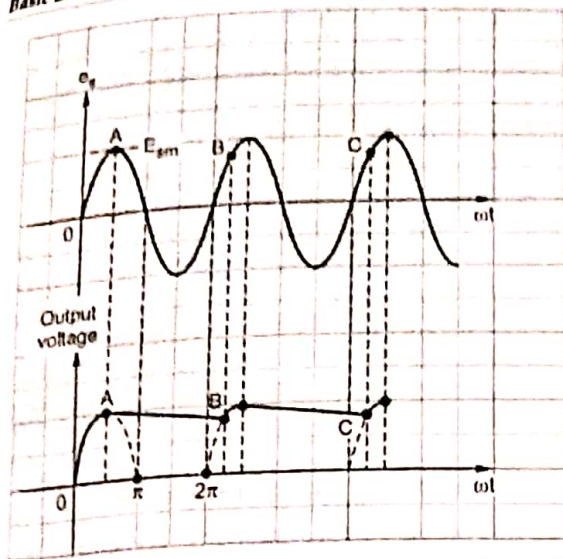

Fig. Q.25.2 Waveforms of shunt capacitor filter with HWR
- The point B is shown in the Fig. Q.25.2.
- The input and output waveforms are shown in the Fig. Q.25.2.